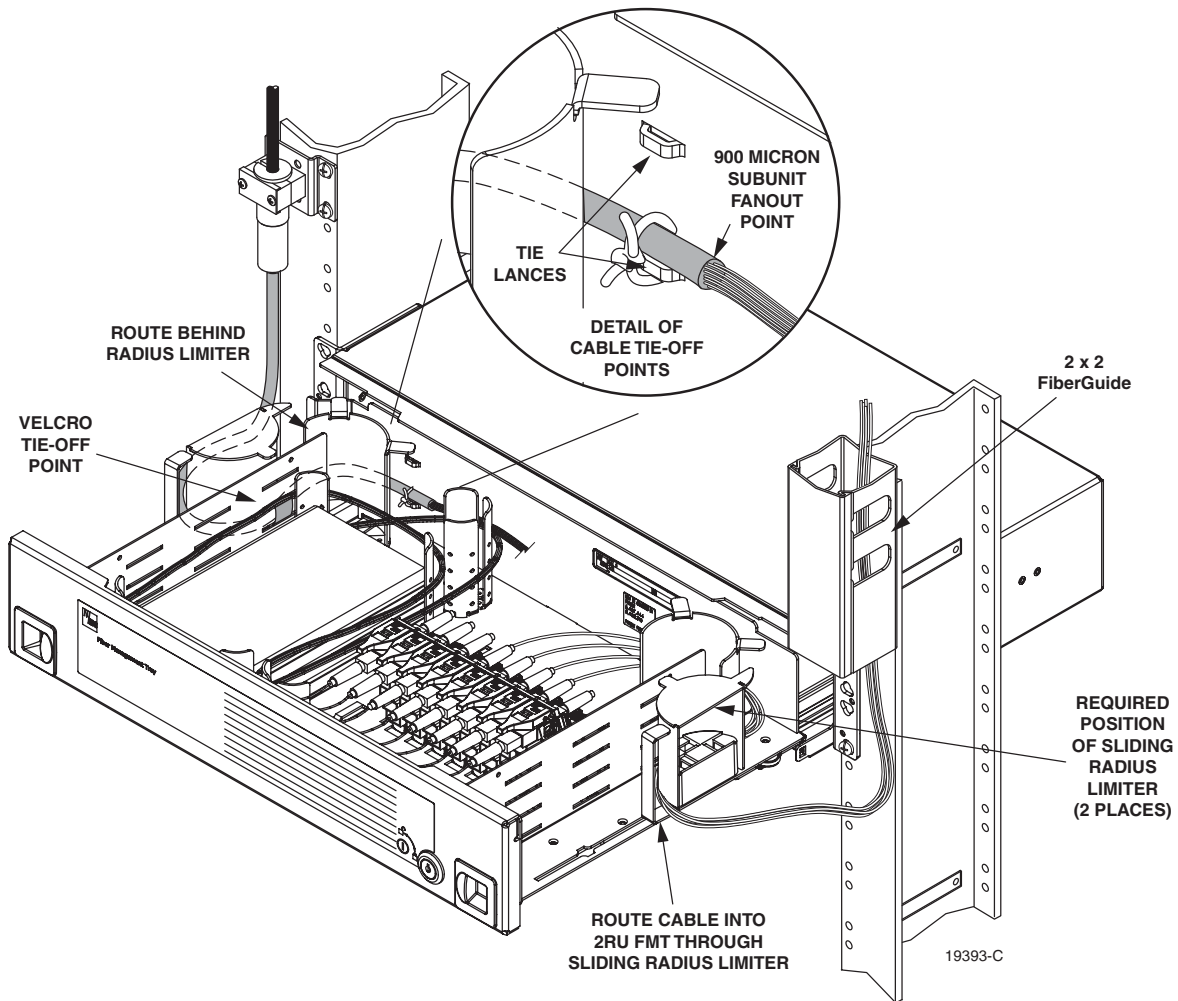

Figure 19. Securing Cables Within 48-Position Termination/Splice Tray
2. Route cables along the rack to the 2RU FMT, as shown in Figure 19. Route cable to be spliced on the left side of the rack. Route cable to be terminated on the right side of the rack.
7. Secure the cables on the side and rear of the tray as shown in Figure 19 on page 22.